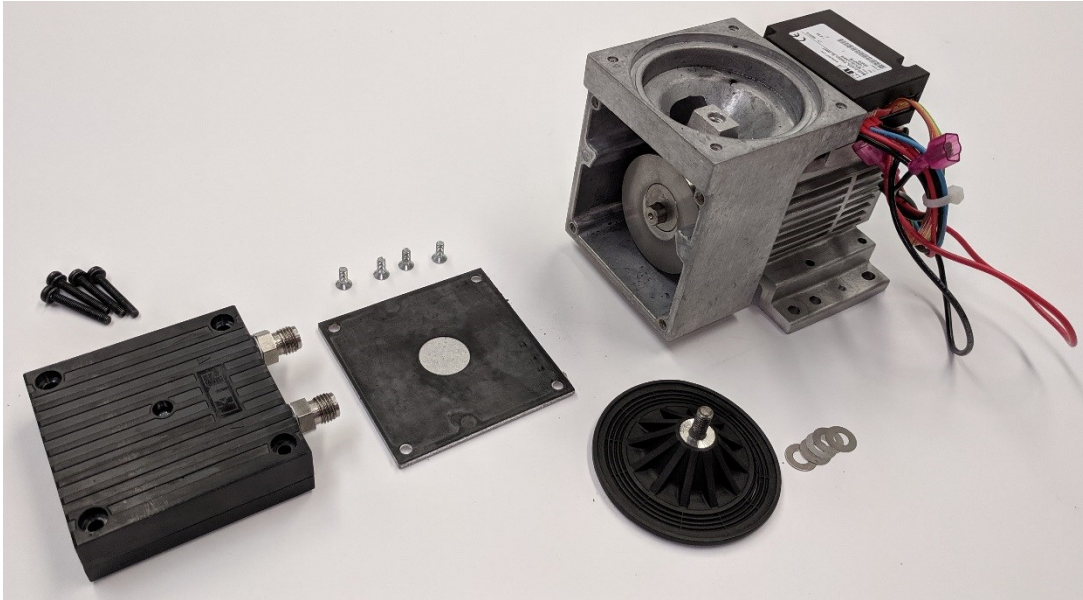

*Figure 75: Damaged Diaphragm in Highest Position*
4. Rotate the counterweight located within the side compartment by hand until the connecting rod moves the diaphragm into its highest position. At this point you may be able to see if the existing diaphragm is worn or damaged. See Figure 75.